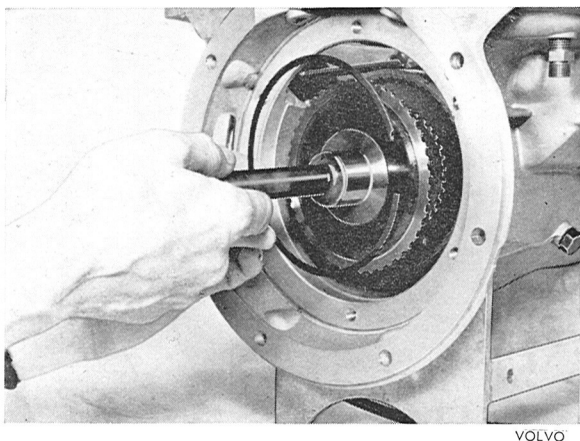

Fig. 4-122. Installation sequence, front clutch snap ring, input shaft and thrust washer
18. Install the pressure plate, inner and outer plates, and hub. Install thrust washer for the clutch hub and input shaft into the front clutch, see Fig. 4-122. Install the snap ring.